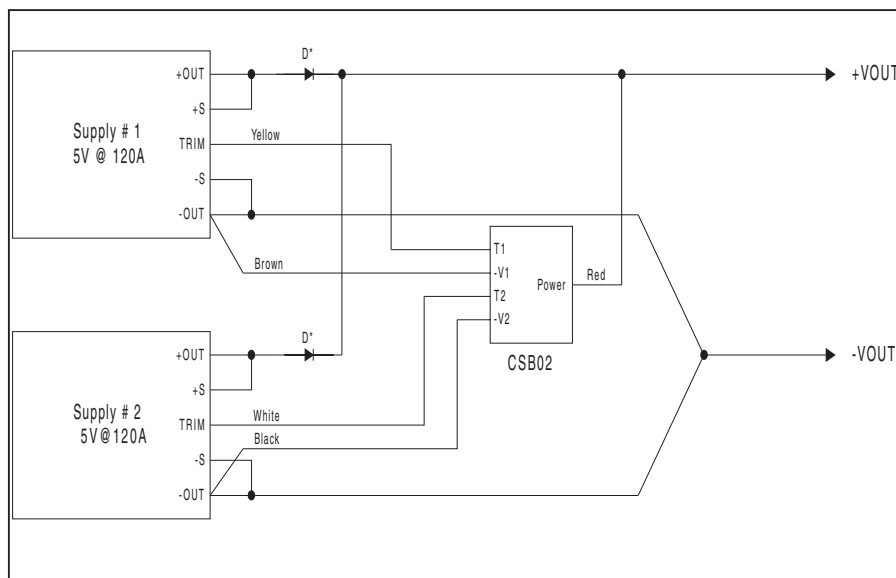

Figure 1. CSB Interconnect Example
2. -Out conductors must be of equal length and wire gauge. Separate -Out conductors must be used from each supply to the load, or the use of a "Y" connection to a common point must be used as shown in figure 1. Each leg of the "Y" must have a minimum of a few millivolts of drop in order for proper operation. 50mV to 100mV of drop will provide from 5% to 1% accuracy.
6. Terminate Sense Leads either locally or remotely as shown in figure 1.